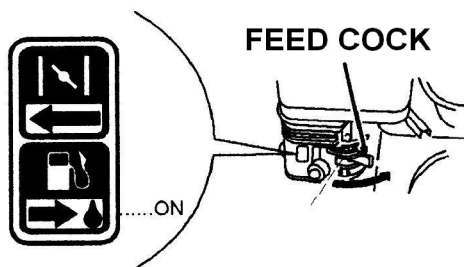

Figure 4
- For greater safety shut off the feed cock (Fig. 4).
- Place the feed cock in the OPEN position (direction shown by the arrow, Fig. 4).